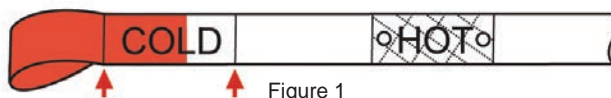

Figure 1
4. Keep the dipstick pointing down and check both sides of the dipstick, and read the lower level. Repeat the check procedure to verify the reading. **Reference Figure 1.**